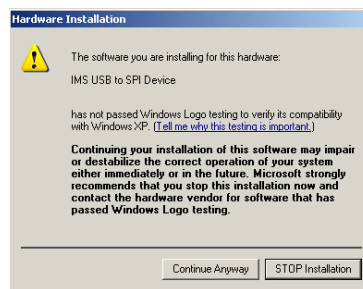

Figure C.8: Windows Logo Compatibility Testing
- 10) On the Dialog for Windows Logo Compatibility Testing, click “Continue Anyway” (Figure C.8).